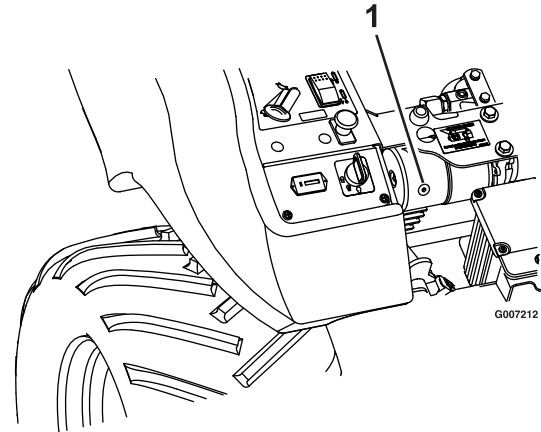

Figure 9
4. Locate the auxiliary hydraulic power unit reservoir (see Figure 9).